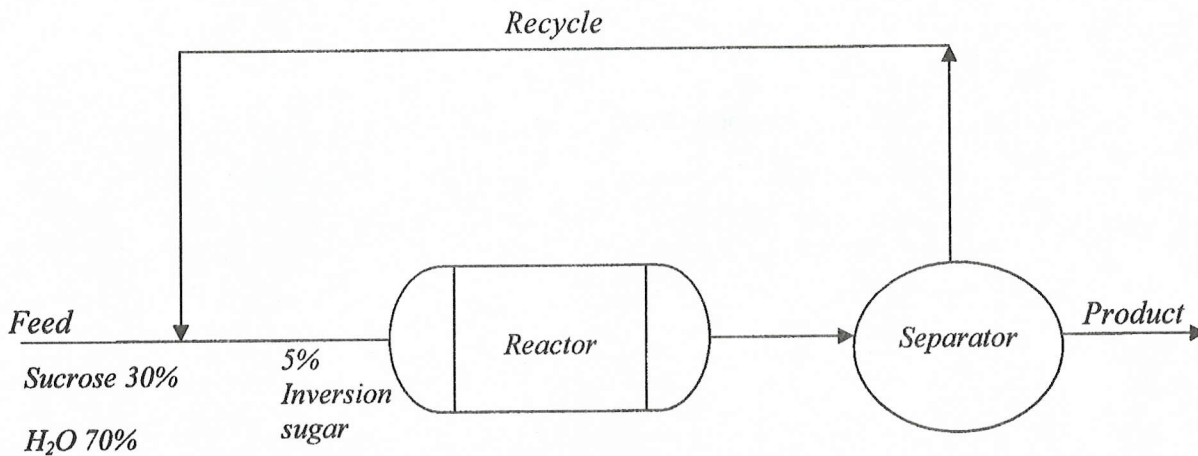

Figure Q.7
- [a] What would be the recycle stream flow per 100lb fresh feed of sucrose solution entering the process shown in Figure Q. 7.